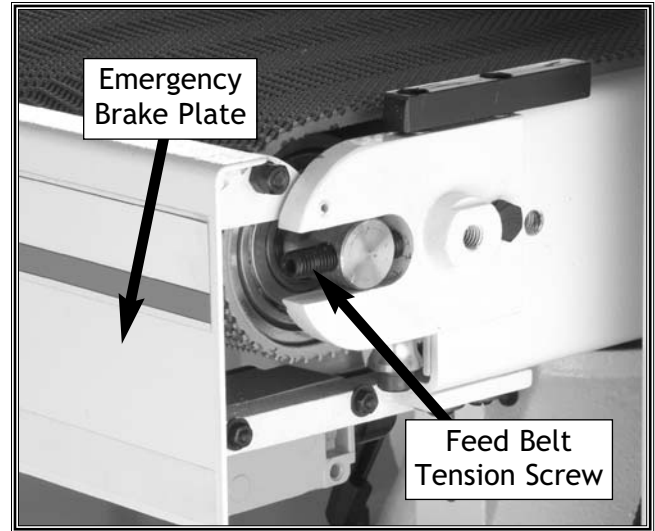

Figure 24. Feed belt tension screw.
2. Position the emergency brake plate up as far as it will go, so that it is out of the way of the tension screws (one is shown in **Figure 24**). The back feed roller is not adjustable, and therefore, no adjustment screws are located at the back of the sander.